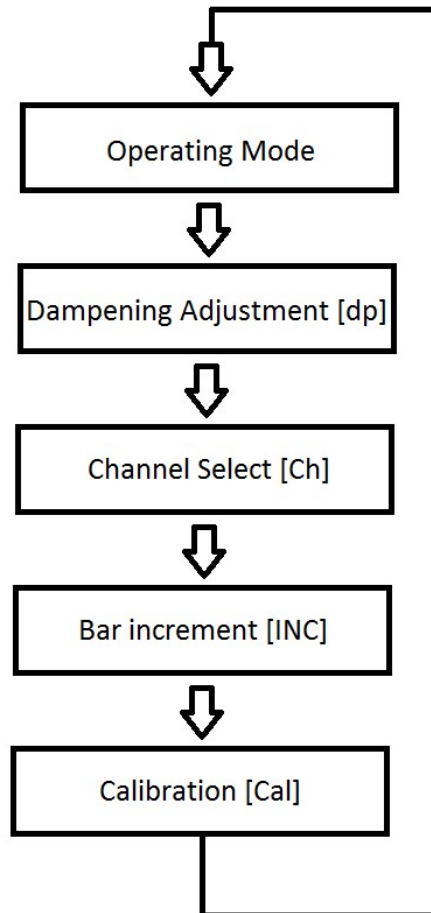

Figure 3 - Menu diagram
The SynchroKing 8® is equipped with a number of adjustments that can be used to set up the device to best suit the engine characteristics. Pressing the 'Sel' button will cycle through the adjustment settings as depicted in Figure 3 below.
7. With the throttle fully closed, adjust, as necessary, the stationary adjuster screw on the carburettor or throttle valve body, until the bar displays equal vacuum in both inlet manifolds. (See Figure 3).